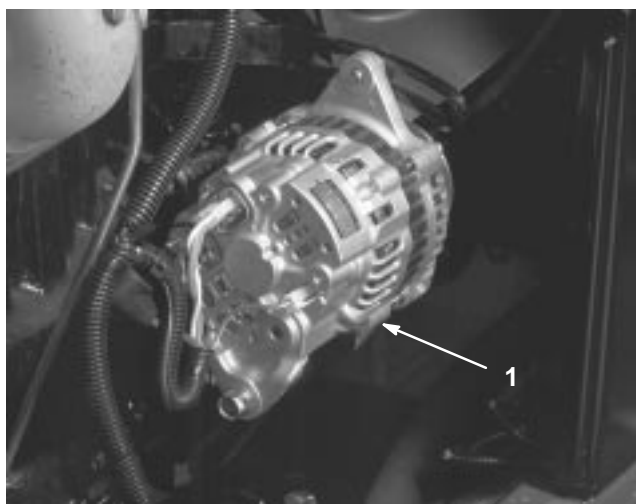

Figure 43
- C. Loosen the 3 bolts securing alternator to plate and mounting bracket (Fig. 43). Rotate alternator away from engine to increase tension and tighten bolts. Check belt tension after adjustment and re-adjust, if necessary.